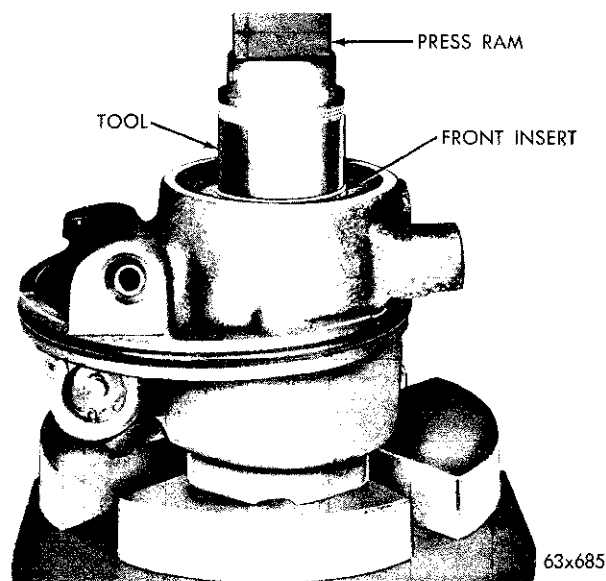

Fig. 20—Installing Front Insert Into Pump Housing
(18) Remove the special flat washer tool. Make sure that the springs are in place by rotating the pump shaft and looking through the notch in each slipper.
(19) Lubricate the rotor and slippers with clean power steering fluid and rotate the shaft to make sure the slippers do not bind.
(20) Replace the shaft seal and "O" ring seal on the front insert. Lubricate the shaft seal, "O" ring and shaft with power steering fluid.
(21) After making sure the inner face on the front insert is smooth and free of burrs, place the insert assembly on the shaft with care so that the shaft seal is not damaged by the end of the shaft.
(22) Support the pump housing in an arbor press, align the center punch marks on the front insert and the pump body, and using a 1¼ inch socket with ½ inch drive, press the insert into the pump housing (Fig. 20).
(23) Install the spanner nut and tighten to the exact